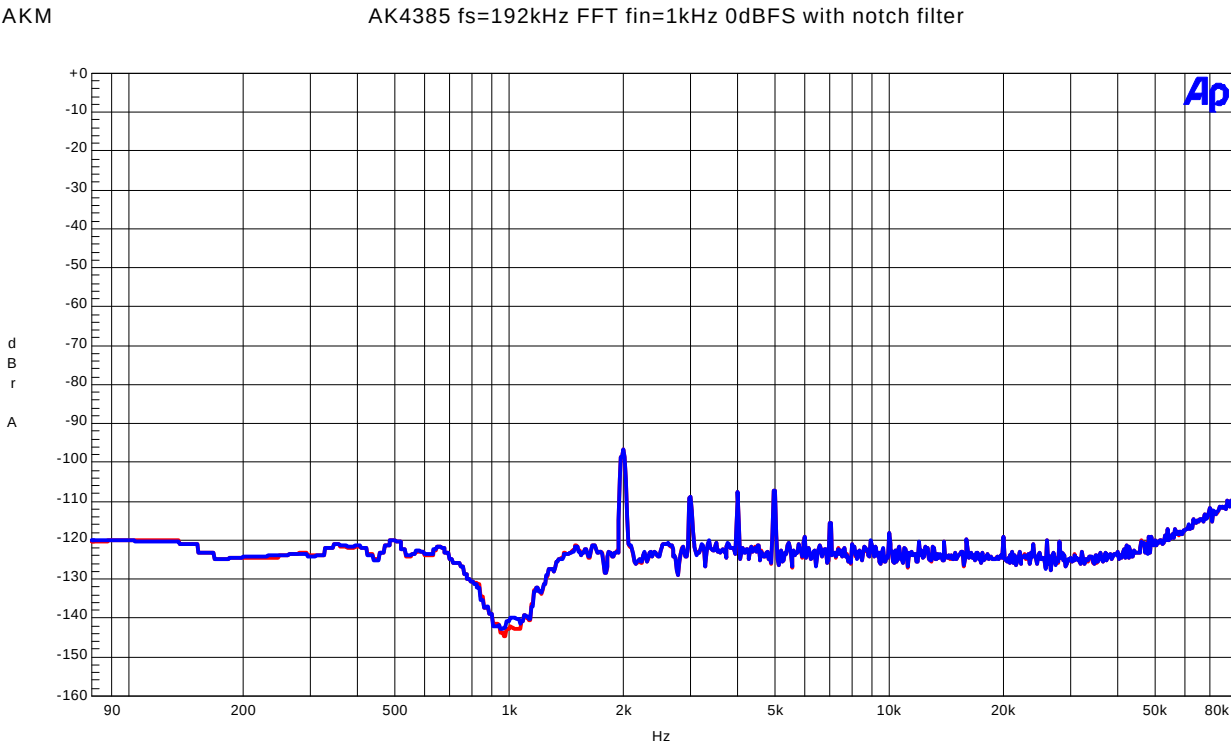

Figure26. FFT (1kHz, 0dBFS input, Notch=ON)
- Figure26. FFT (1kHz, 0dBFS input, Notch=ON)